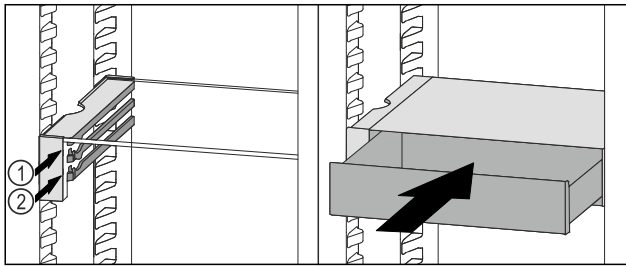

Fig. 100
- ▶ Place the VarioSafe drawer behind the stoppers on desired rib Fig. 100 (1) or Fig. 100 (2).